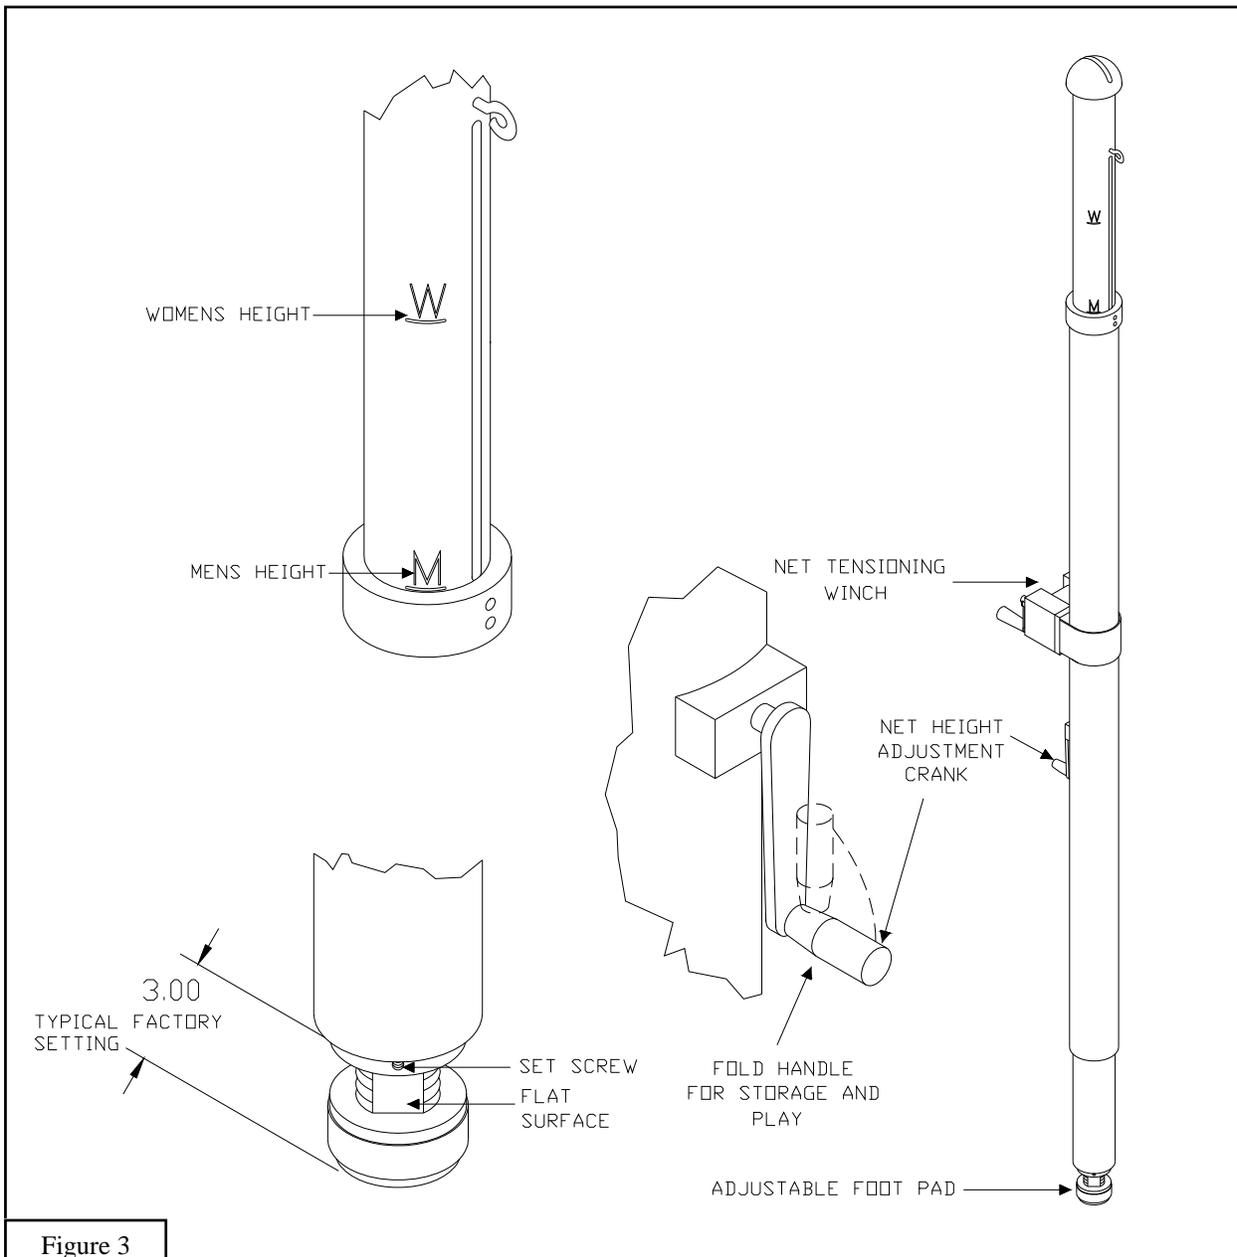

Figure 3
1. Install *Standards* (A) into floor sockets. Use the net height adjustment crank to extend inner pole to either the W (women’s), M (men’s) or J (junior) line. The machined line should be above but touching the collar. If your sockets are 3 1/2” or 4” request free floor socket adapters from manufacturer. See Figure 3.
7. Measure from the top center of *Net* (F) to the floor. Official Men's height is 7' 11 5/8", Women's, 7' 4 1/8" and Junior's 7'. If this measurement is above or below the official height write it down and proceed to instruction #8 to make minor one time adjustments to the adjustable foot.
8. Remove *Net* (F) from poles.
9. Remove *Standards* (A) from floor sockets and lay on floor. Measure the distance from the bottom of the pole to the bottom of the adjustable foot pad, write it down. Loosen set screw in the collar of the bottom adjustable foot with the 1/8" *Allen Wrench* (K). Turning the adjustable foot clockwise will lower net height, counter-clockwise will raise net height. Each revolution of the adjustable foot will raise or lower pole by approximately 3/16". Make sure you use full revolutions. The set screw must rest on the machined flat on the adjustable foot to eliminate damage to the threads. Check your math to ensure you have moved the adjustable foot in the right direction then tighten set screw. See Figure 3.
11. It is possible to make fine tune height adjustments with the net tight and in position by simply turning the net adjustment crank. Any fine tuning adjustments might require additional net tensioning with the winch, or adjustment of *Rope Ratchet Net Tensioning Ropes (H)*.
12. Once all adjustments are completed attach *Volleyball Antennas (G)*, *Cable Covers (E)* and *Pole Padding (B)* prior to play.